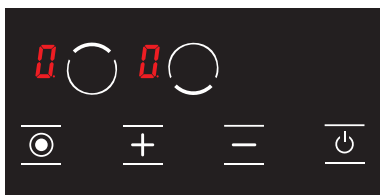

Figure 19
- The **H** icon is displayed on all displays. (see Fig. 19) The **L** and **H** icons are displayed alternatively if any hob is hot.